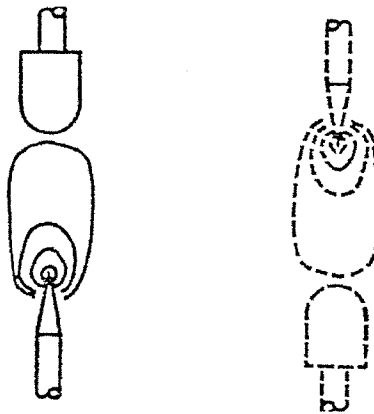

Figure 5: Electrodes inverted view
3. Rotate the mirror knobs until a bright spot appears alongside the arc (See Fig. 5). This bright spot is a distorted image of the arc.